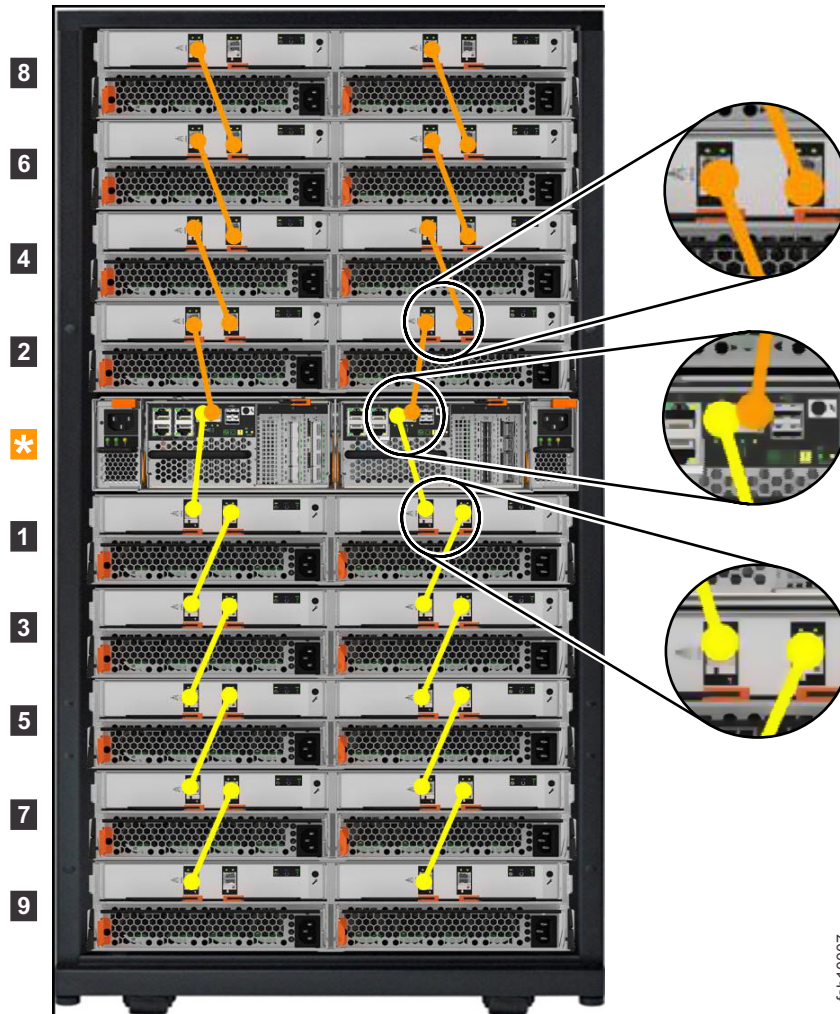

Figure 44. Connecting the SAS cables
1. Using the supplied SAS cables, connect the control enclosure to the expansion enclosure at rack position 1, as shown in Figure 44 on page 52.
2. To add a second expansion enclosure to the control enclosure, use the supplied SAS cables to connect the control enclosure to the expansion enclosure at rack position 2, as shown in Figure 44.
3. If additional expansion enclosures are installed, connect each one to the previous expansion enclosure in a chain, using two Mini SAS HD to Mini SAS HD cables as shown in Figure 44.